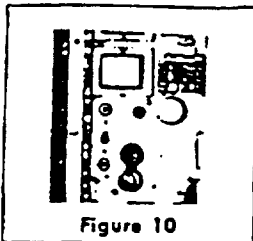

Figure 10
2. Test Switch (Figure 10) when in "check" position, electrically disconnects the timer motor, permitting manual control of timer.